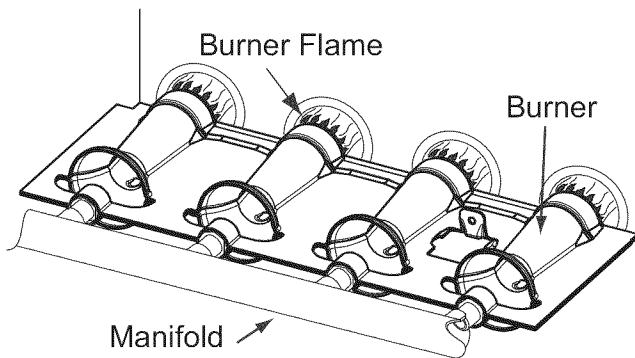

Fig. 57 - Burner Flame
8. Reverse items 6 through 1 for reassembly.
11. Check furnace operation through 2 complete heat operating cycles. Look at burners. Burner flames should be clear blue, almost transparent. (See Fig. 57.)